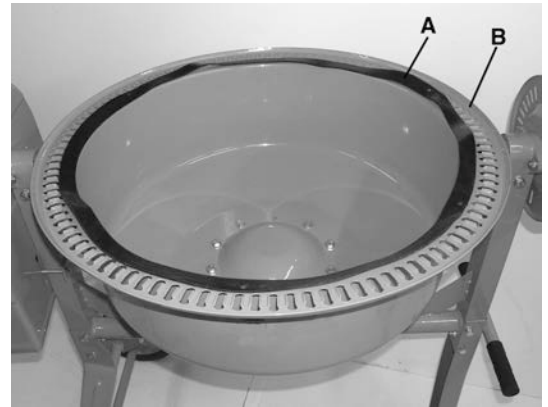

FIGURE 15
1. Place the rubber gasket (A) Fig.15 onto the lower drum (B) as shown. Line up the rubber gasket mounting holes with the ones on the lower drum. It is recommended to use a gasket sealer (not included) to fix the rubber gasket to the lower drum. The rubber gasket must be set flat to ensure proper seal.